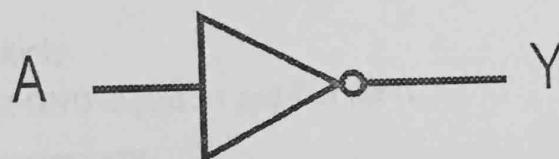

Figure 4.1
4. Wire the circuit according to the diagram in fig.4.1 by consulting NOT gate IC's data sheet in fig 4.2.